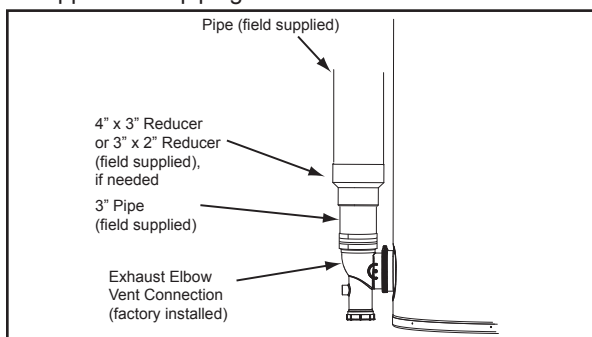

Figure 17. Vent (Exhaust) Connection
11. If installing two- or four-inch pipe, transition to three-inch pipe at the exhaust elbow on the water heater as shown in *Figure 17* (page 24). The field installed three-inch pipe between the exhaust elbow and the reducer coupling should be 18 inches (45 cm) or less in length.
12. If installing two- or four-inch vent pipe, transition to three-inch pipe at the exhaust elbow on the water heater as shown in *Figure 17* (page 24). The field installed three-inch pipe between the exhaust elbow and the reducer coupling should be 18 inches (45 cm) or less in length.